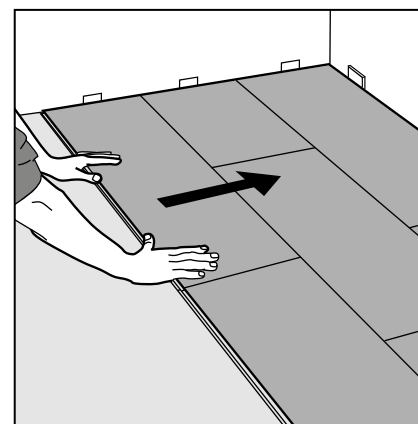

Figure 18 Remaining rows
**7.2.8.6 Remaining rows (Fig 18) :**